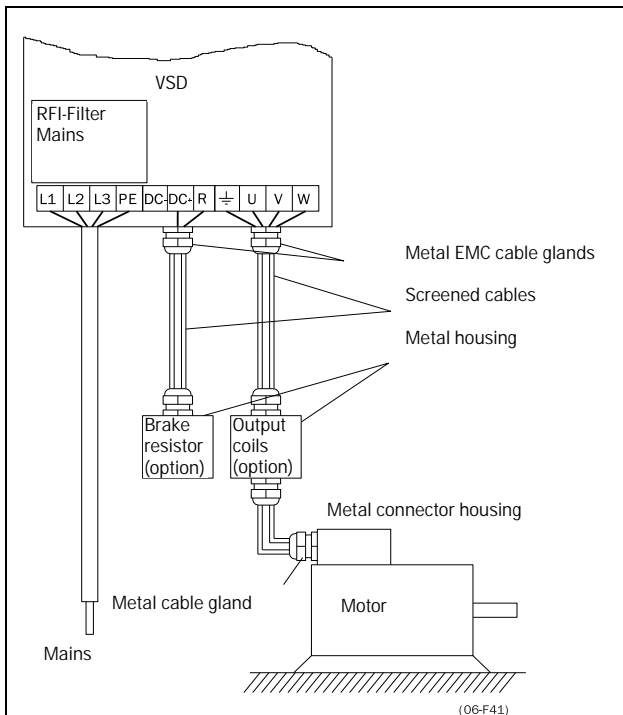

Fig. 16 Variable speed drive as stand alone
- The litz ground connection, see fig. 16, is only necessary if the mounting plate is painted. All the variable speed drives have an unpainted back side and are therefore suitable for mounting on an unpainted mounting plate.
Fig. 16 shows an example when there is no metal mounting plate used (e.g. if IP54 variable speed drives are used). It is important to keep the "circuit" closed, by using metal housing and cable glands.